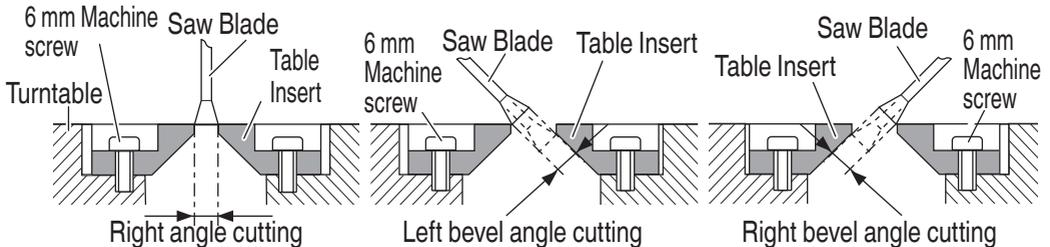

Fig. 12
3. Positioning the table insert (Fig. 12)